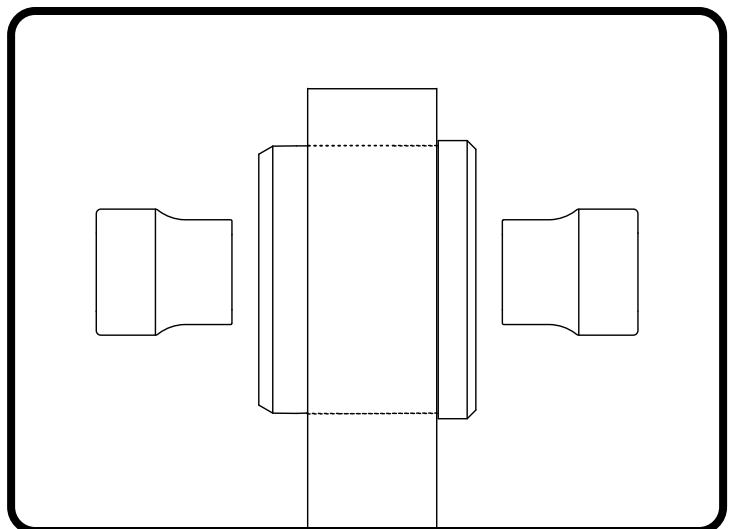

Figure 7
8. Install the spacers in the R-Joint bushings by inserting the small side of the spacer into the center pivot ball. Push them in until they bottom out and stop (Figure 7).